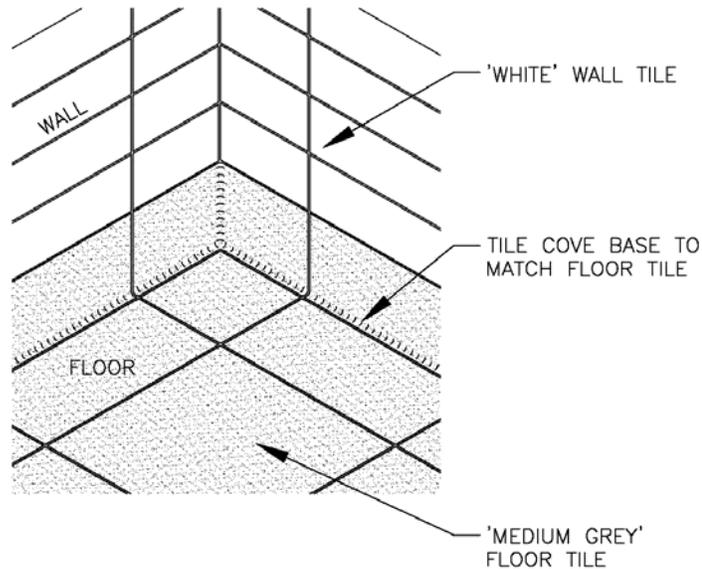

Figure 1.9.3C
- D. Tile cove base will be provided and match floor tile and extend up the wall as shown in *Figure 1.9.3C*. Non-tile cove bases and cove strips are not acceptable.